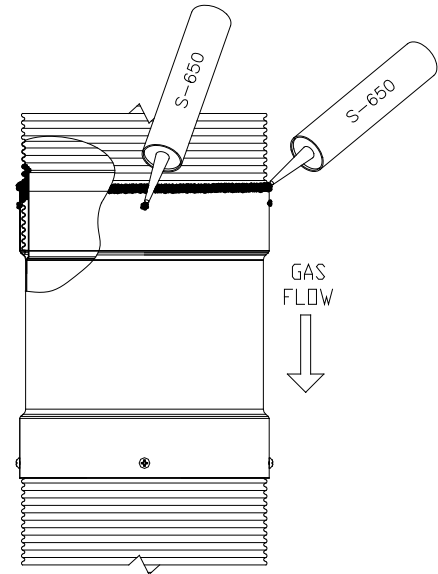

Figure 23 -SecureSeal Flex S-650 caulking
- 3.3. Push the adapter on the liner all the way in, until you can't see the mark made on the flexible liner earlier. Add a bead of the S-650 red caulking all around the outer junction of the adapter and the flexible liner to make sure everything is well sealed. Also add over the screw holes (Figure 23).